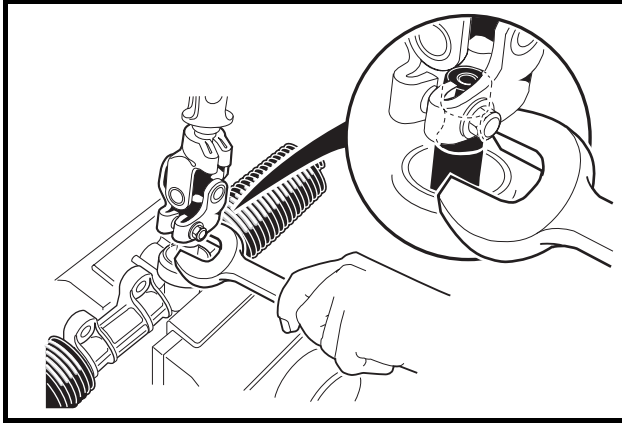

Figure 7-9 Remove Pinion from Housing
10. Install the universal joint onto the pinion and place a large open end wrench under the universal joint (Figure 7-9, Page 7-9). Use the wrench as a lever to pull the pinion from the housing.